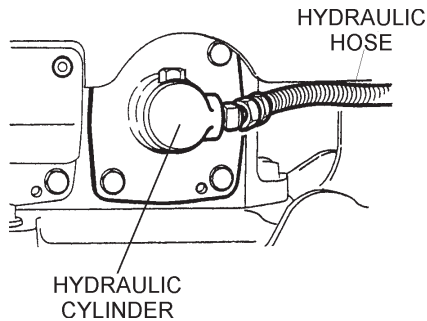

Figure 32. Hydraulic Oil Cylinder
- Disconnect the hydraulic hose connected to the hydraulic oil cylinder (Figure 32).